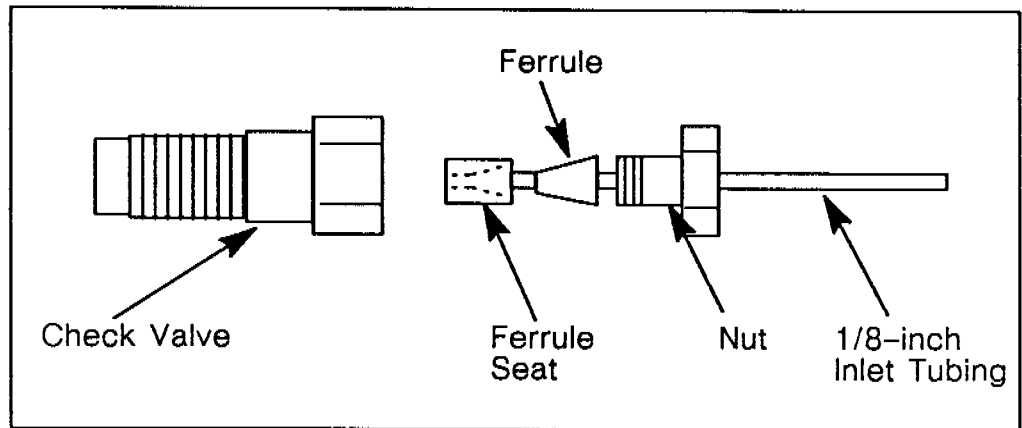

Fig. 5.15 Ferrule Seat and Inlet Check Valve
1. Remove the inlet tubing (Fig. 5.15) from the check valve. Be careful not to lose the ferrule seat which falls from the check valve.